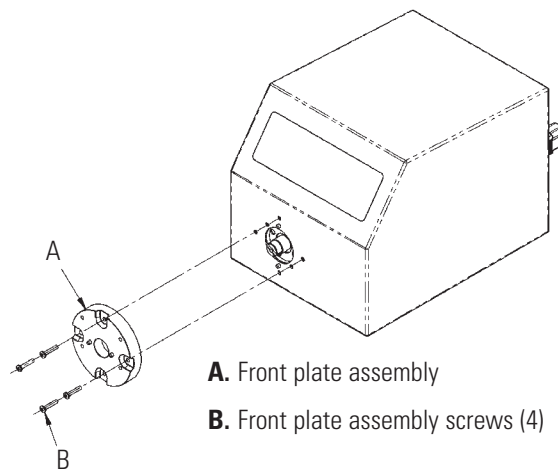

Figure 4-3. Shaft Seal Inspection
2. Remove the four (4) screws (see Figure 4-3, Item B) that hold the front plate assembly (see Figure 4-3, Item A) to the drive, and pull the front plate assembly off the drive. #8-32 screws may be installed in the pump-mounting holes to provide handles for pulling the plate assembly off. Retain Item B screws for Step 8. DO NOT substitute screws.
8. Slide the front plate assembly back over the shaft and onto the locating pins, in the orientation desired. (4 configurations, each 90 degrees of rotation apart, are possible). Reinstall the four (4) screws, removed in step 2 (see Figure 4-3).